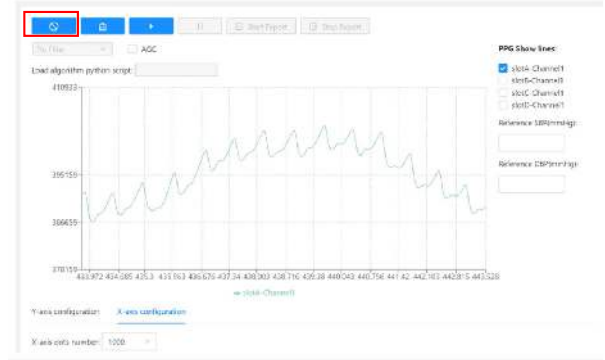

Figure 45. Clear Plot Data
- Click the **Stop Data Plot** button to clear the plot (see Figure 45).